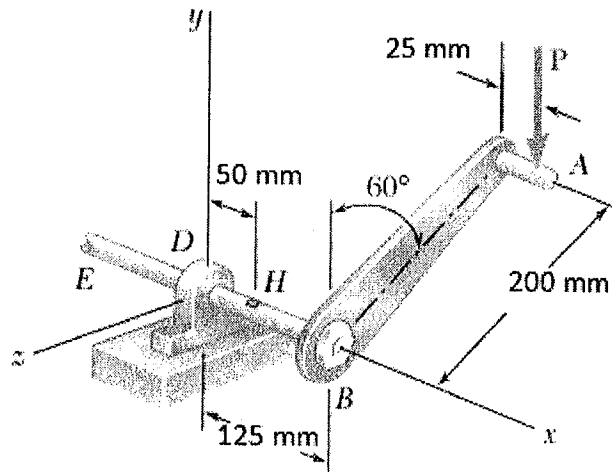

Figure 6
6. A vertical force  $P$  of magnitude 300 N is applied to the crank at point as shown in Figure 6. The diameter of the shaft BDE is 18 mm. Determine the principal stresses and the maximum shearing stress at point H located at the top of the shaft, 50 mm to the right of support D.